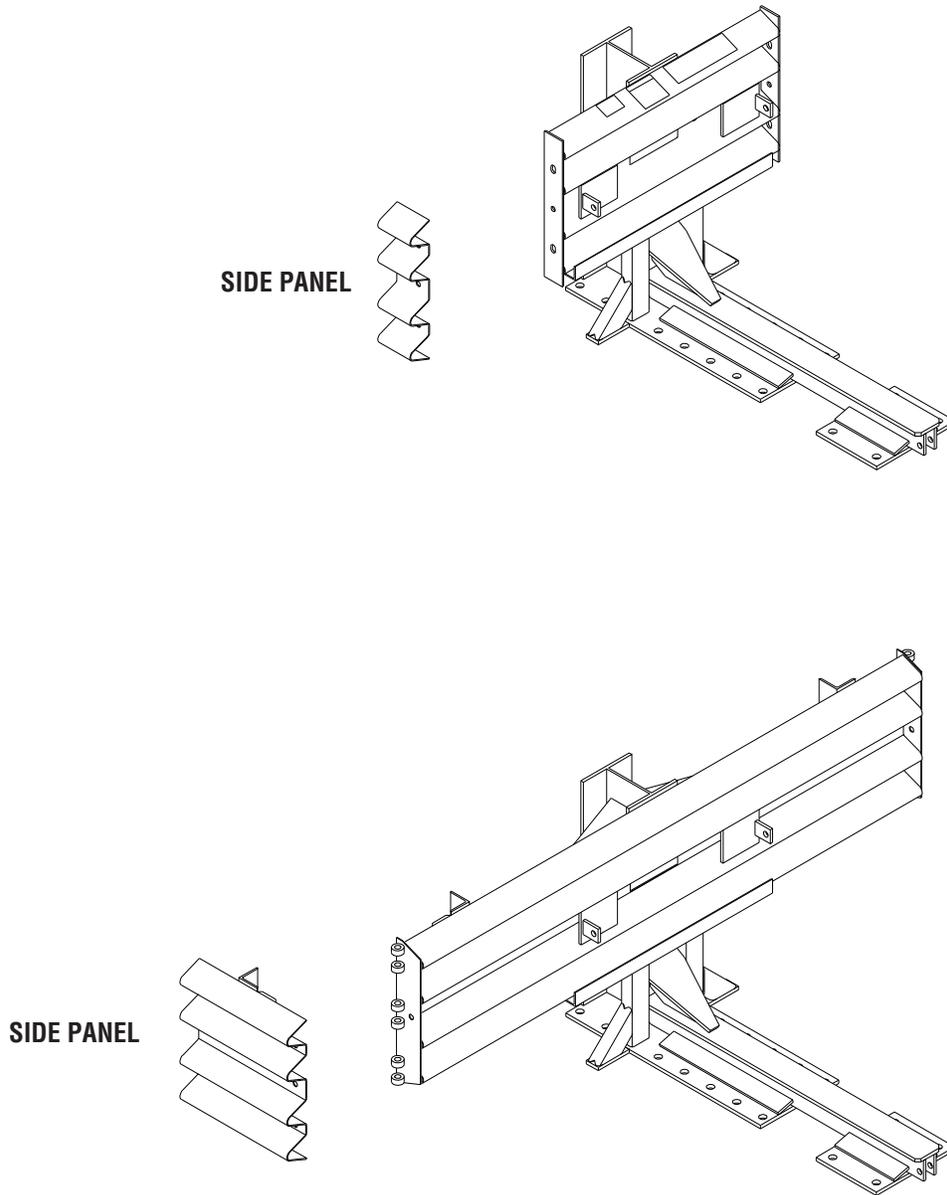

Figure 79
6. Attach 10 mm [3/8"] Grade 40 x 6 m [20'] chain to pullout brackets on first diaphragm (see Figure 79). Attach both ends of chain to a heavy vehicle (such as a 1 ton pickup).